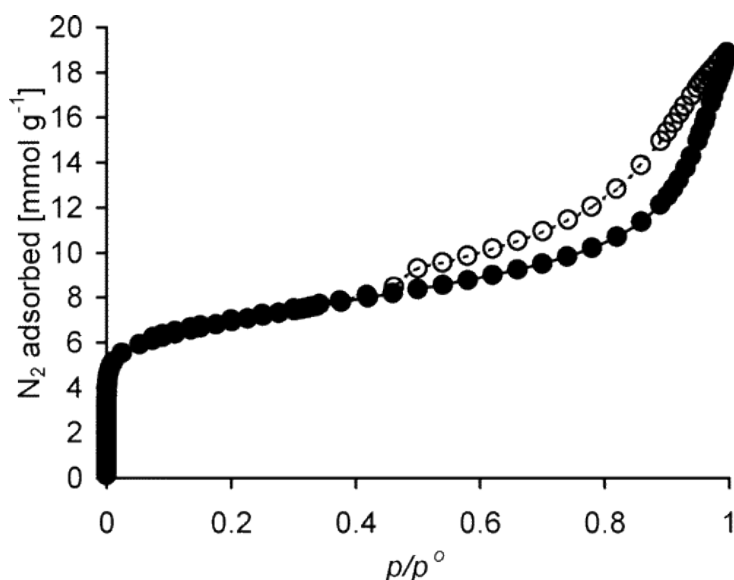

Fig.1.1. N₂ isotherm of the polymer sample at 77 K.
- (b) The polymer sample is analysed by N₂ sorption at 77 K. The resulting isotherm is shown in Figure 1.1. Explain, step-by-step and indicating all assumptions made, how you would determine the BET surface area of the sample using Figure 1.1.